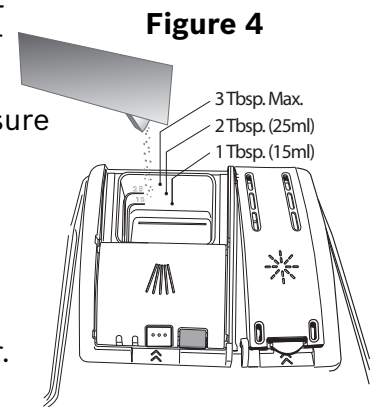

Figure 4
- 1 tablespoon (15ml) will clean most loads (see **Figure 4**).